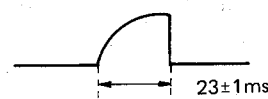

Figure 39
3. Monitoring TP4 with an oscilloscope (internal trigger), adjust R788 to meet the requirement given in Figure 39.